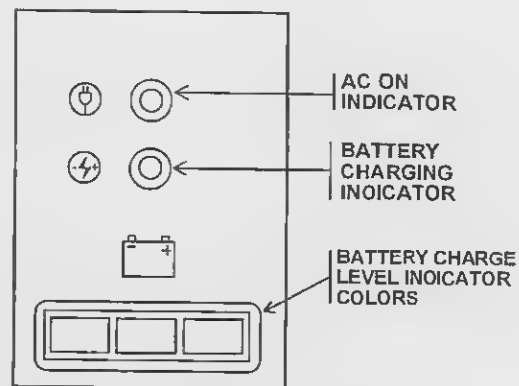

Figure 2-20. AC and battery indicators.
b. Observe that the red AC ON indicator and the red battery charging indicator are both illuminated (fig 2-20).